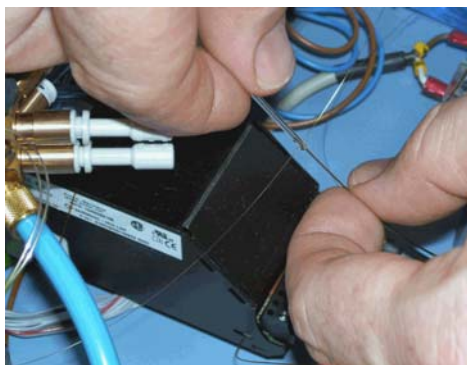

Figure 5-37. Cutting sample transfer capillary to IRMS
2. Cut the sample capillary that connects the water trap 2 to the sample open split (see Figure 5-3). Use a press-fit to connect the 0.32 mm ID fused silica capillary to the water trap 2. See Figure 5-37.